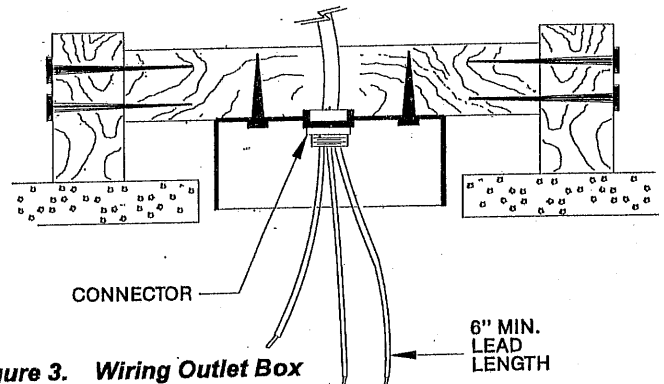

Figure 3. Wiring Outlet Box
- B.** Bring electrical cable into the outlet box and attach with an approved connector. Make certain that wiring meets all national and local electrical codes. Wire leads should extend at least 6" beyond outlet box for ease in making connections. See Figure 3.